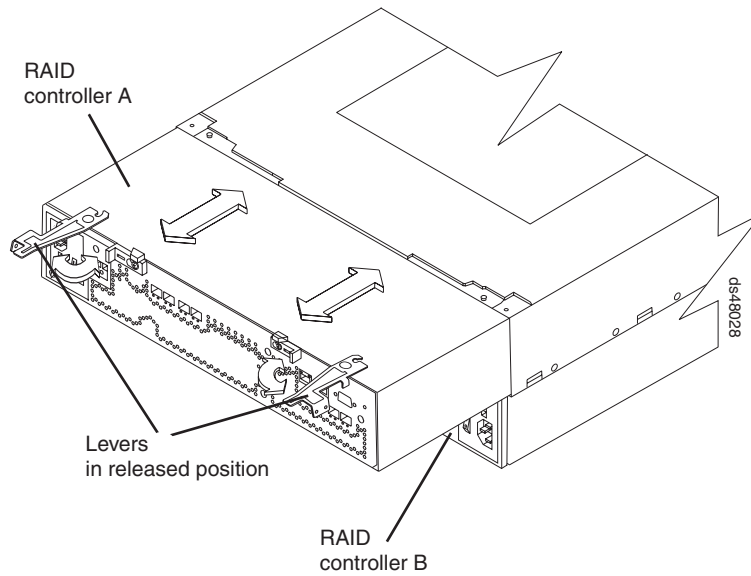

Figure 23. Replacing the controllers
3. Replace the controllers at the back of the DS4800. Figure 23 on page 46 shows the location of the controllers and the controller levers. Ensure that controller A is returned to the upper slot and that controller B is returned to the lower slot.